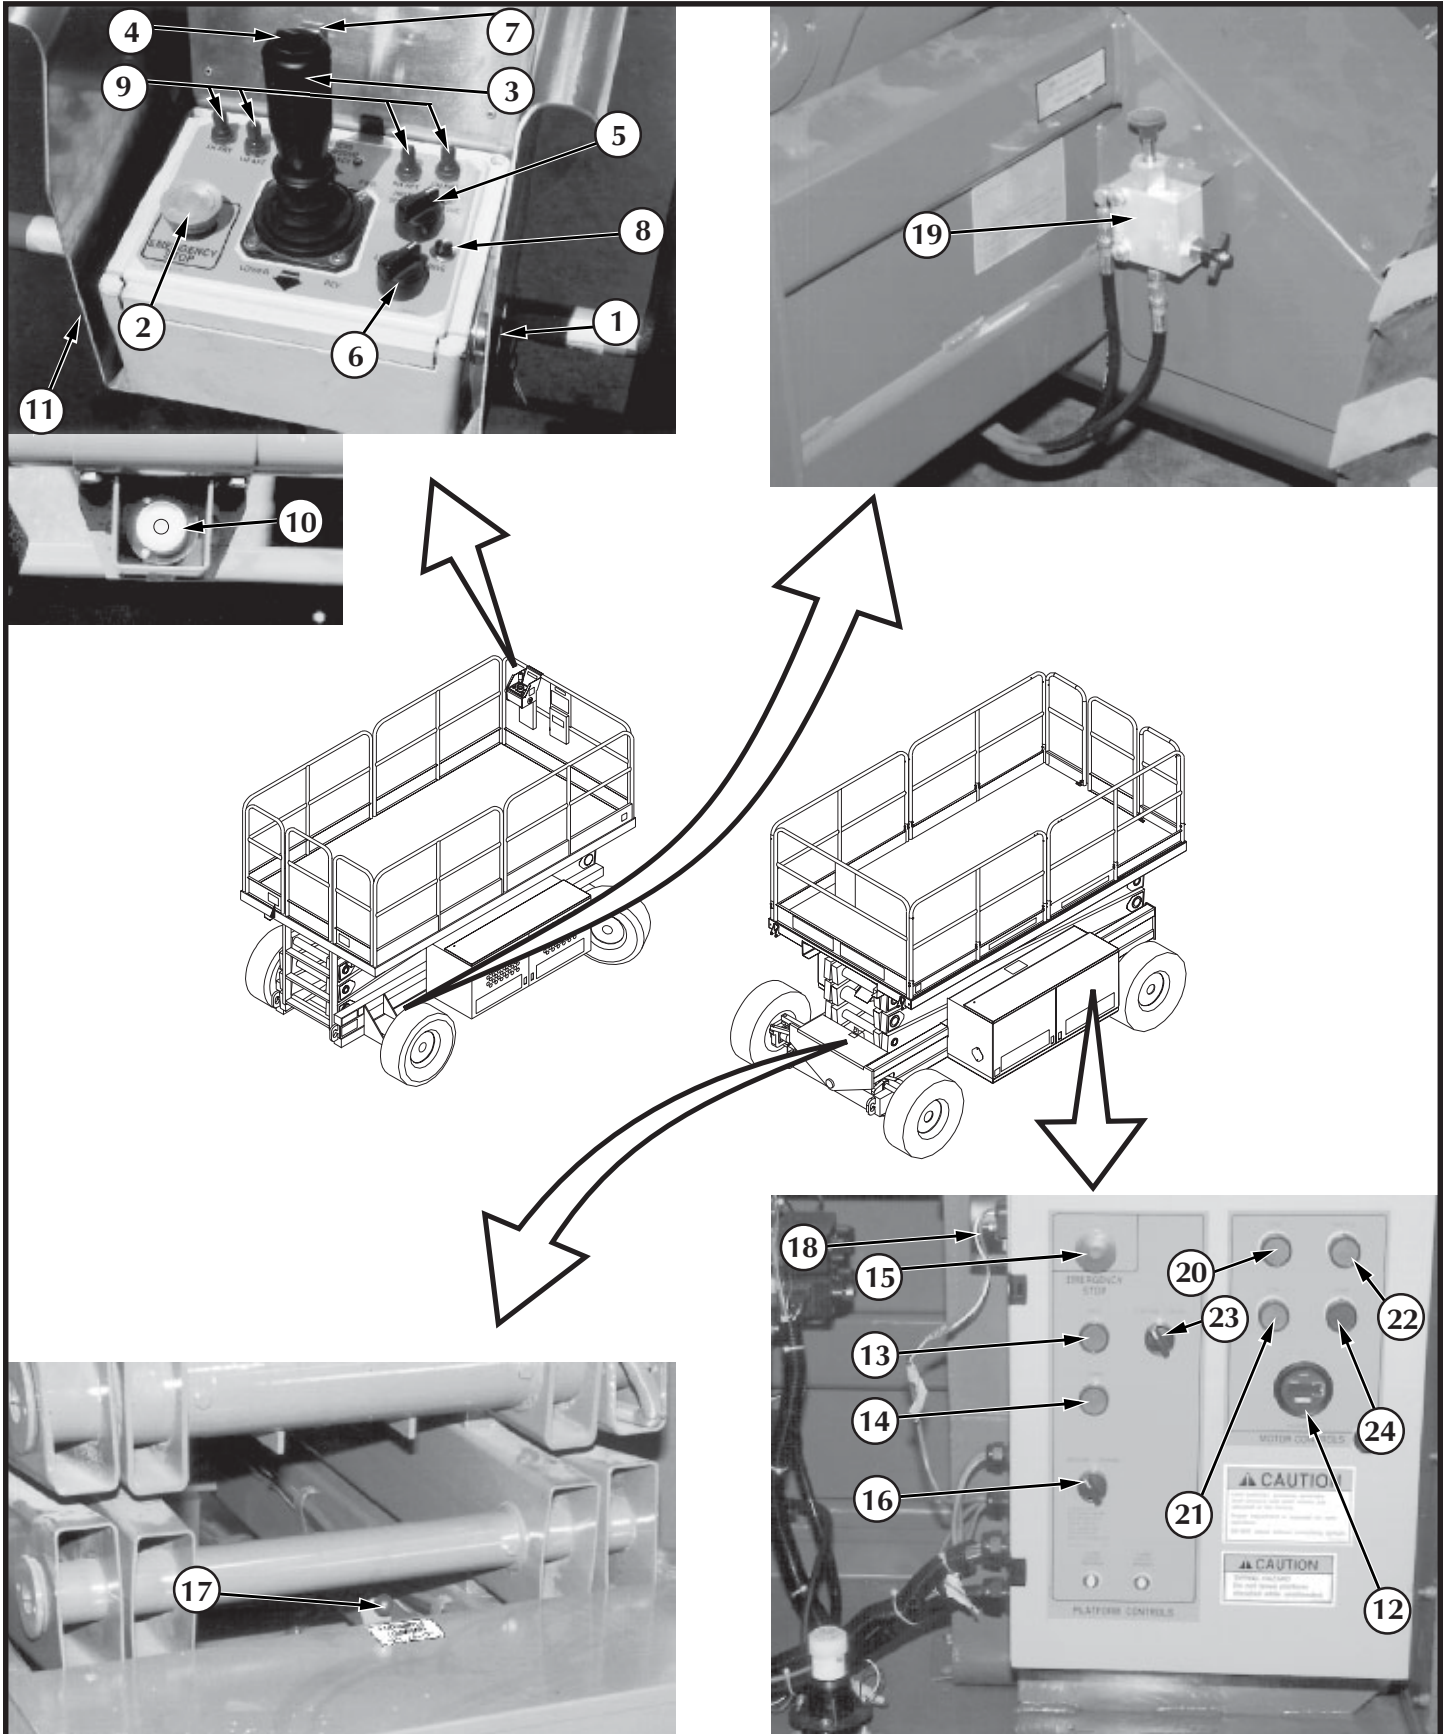

Figure 3-1: Controls and Indicators
The controls and indicators for operation of the LX 31/41 Work Platform are shown in Figure 3-1. The name and function of each control and indicator are listed in Table 3-1. The index numbers in Figure 3-1 correspond to the index numbers in Table 3-1. The operator shall know the location of each control and indicator and have a thorough knowledge of the function and operation of each before attempting to operate the unit.
9. Place chassis and platform emergency stop switches in the ON position (Figure 3-1) by pulling the buttons out.
10. Verify platform/chassis switch is on **PLATFORM** (Figure 3-1).
**The emergency lowering valve is located at the front of the machine at the base of the scissor assembly, (Figure 3-1).**
1. With engine running turn the fuel selector switch (Figure 3-1) to the center position.
## ***3.5 Parking Brake Release (Figure 3-1)***